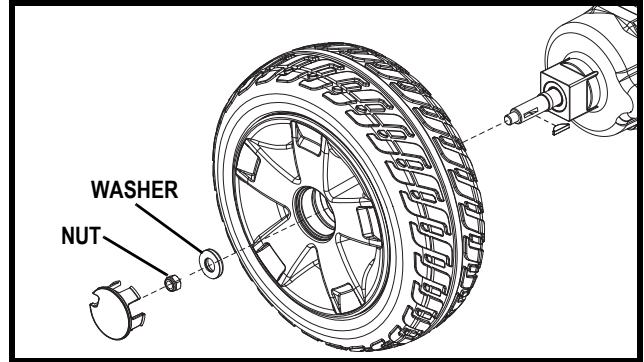

Figure 25. Solid Tire Wheel Removal
3. Remove the drive wheel nut and washer from the axle. See figure 25.